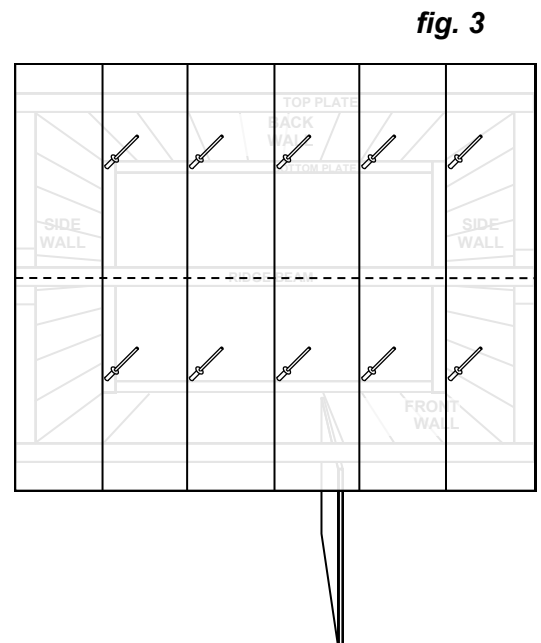

fig. 3
- Rivet sheets together at overlaps, one rivet either side of the ridge beam (fig. 3).